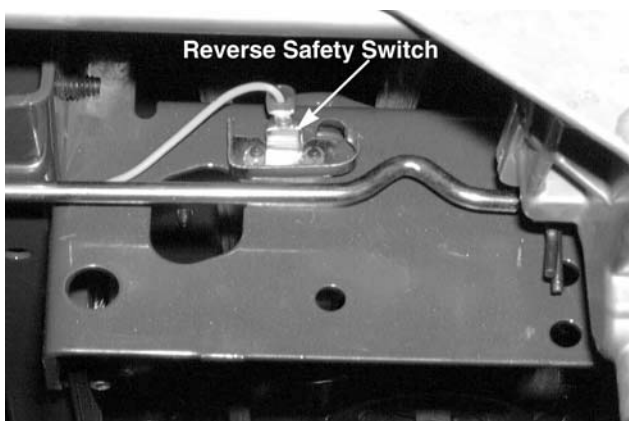

Figure 9-26
6. Disconnect the reverse safety switch. See Figure 9-26.